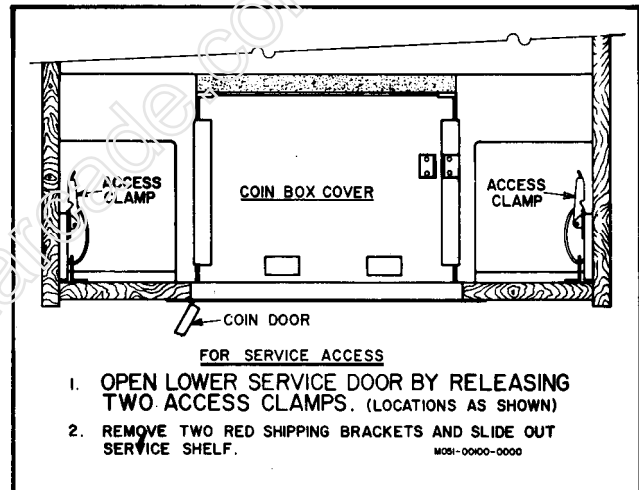

Figure 2-20 Opening the Front Access Door - Upright
- ☐ Reach inside and release the game's front access door locking latches. See Figure 2-20 and the drawing on top of the coin box lid.